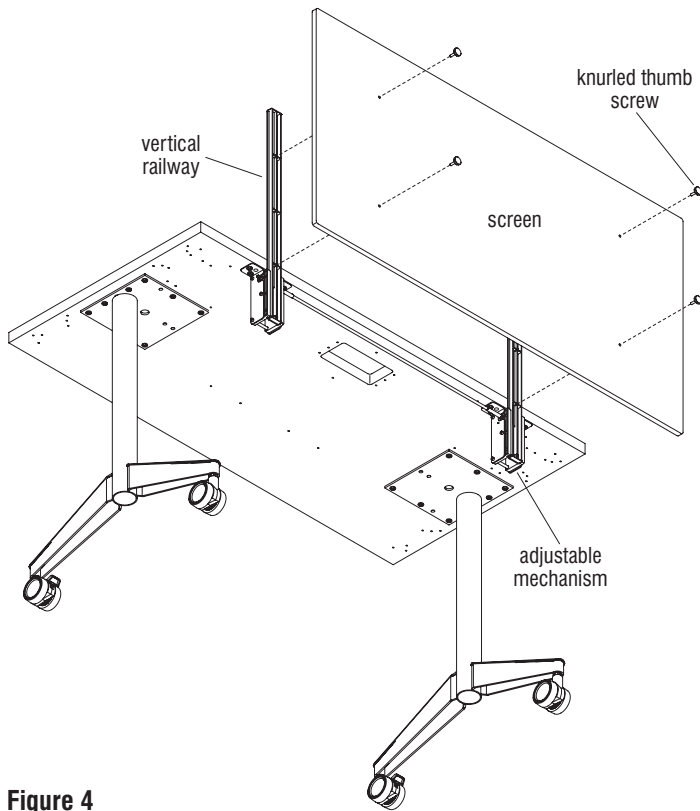

Figure 4
6. Once all adjustable mechanisms are installed, position the screen onto the backs of the vertical rails and align mounting holes. Secure screen to the rails using two knurled thumb screws per mechanism (Figure 4).